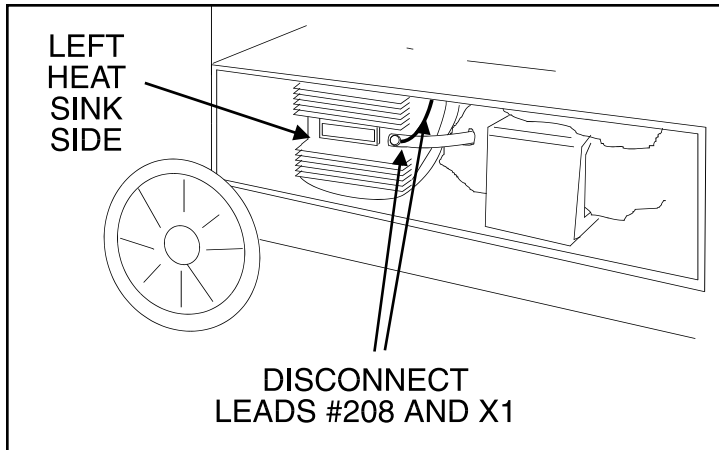

FIGURE F.12 - Heat Sink lead disconnection.
1. Disconnect lead #208 and Transformer Lead X1 from the heat sink on the left side of the machine (facing the front) using a 1/2" socket wrench. See Figure F.12.